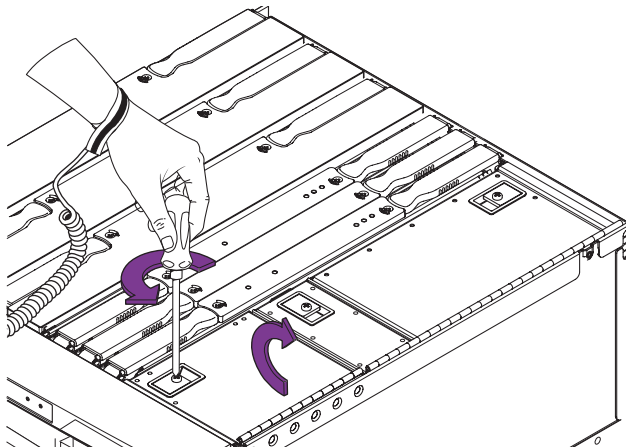

FIGURE 5-6 Opening the Media Bay Access Door
8. Open the media bay access door. Loosen the latch screw (FIGURE 5-6). Release the latch and lift the cover.